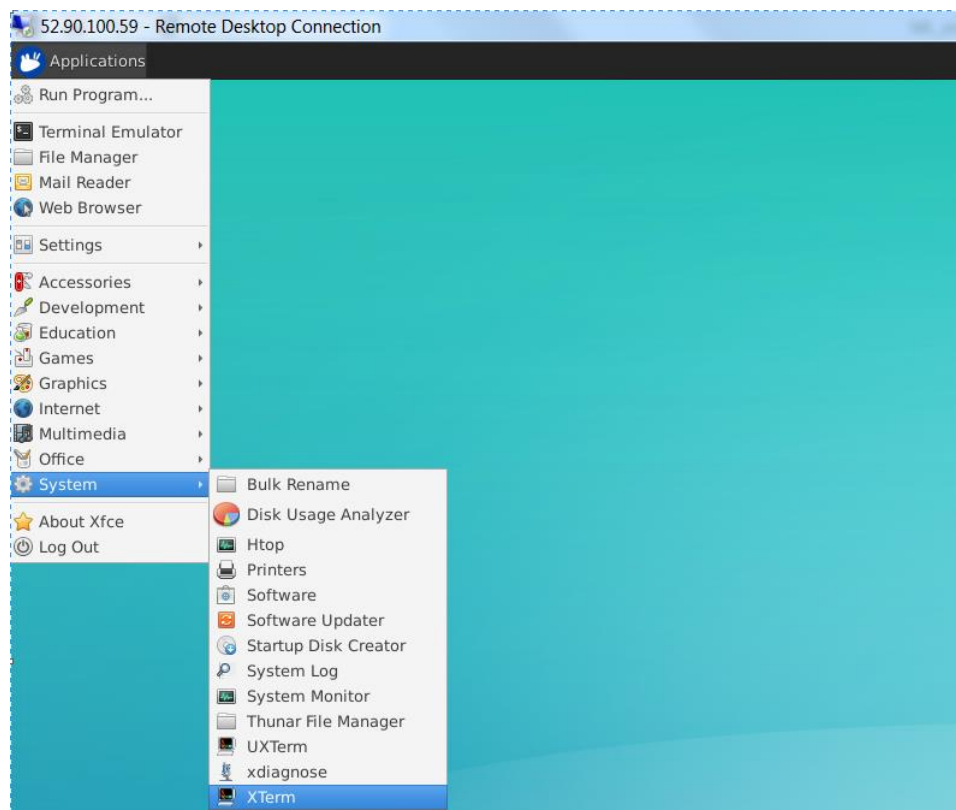

Figure 5: Opening a New Terminal over RDP
Step 7: Open a new terminal as in figure 5.